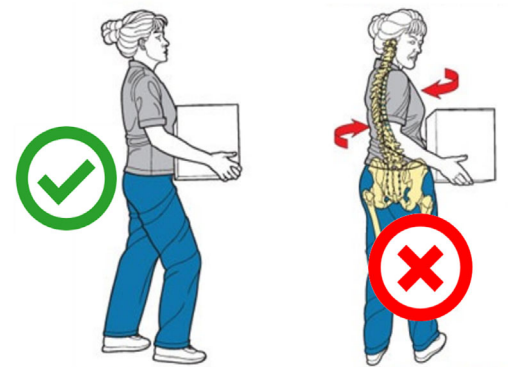

Figure 18 - Handling technique
- Avoid twisting the upper body (Figure 18);